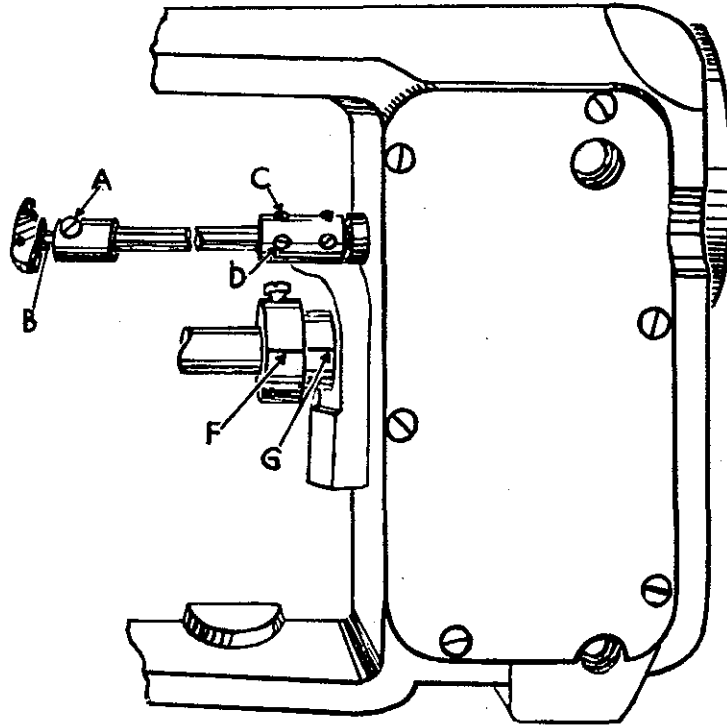
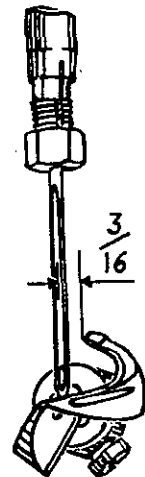
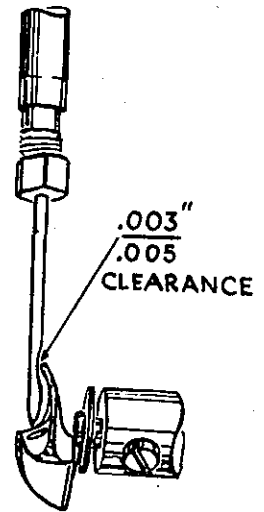

Fig. 1
Fig. 2
Fig. 3
The hook should be placed in the hook shaft so that the set screw (A, Fig. 1) in the shaft bears against the flat (B) on the shank of the hook and the set screw should be firmly tightened. With the needle bar in its lowest position, the hook should be set so that its point is  $\frac{3}{16}$  inch from the center of the needle (Fig. 2). Gauge No. 21225- $\frac{3}{16}$  can be used advantageously in making this adjustment. In order to obtain the above setting when the hook is out of adjustment, it becomes necessary to re-time the hook shaft.
In re-timing the hook shaft, the two screws (C, D, Fig. 1) in the hook shaft coupling should be loosened so the hook shaft turns freely. The shaft should then be turned with the fingers and the hook located properly, maintaining the needle bar in its lowest position. Retighten coupling screws securely.
The hook should also be set laterally so there is approximately .003 inch to .005 inch clearance between the spot in the needle and the point of the hook (Fig. 3). This is done by loosening set screw (A, Fig. 1) and moving the hook to the left or to the right as may be required and retightening the screw.